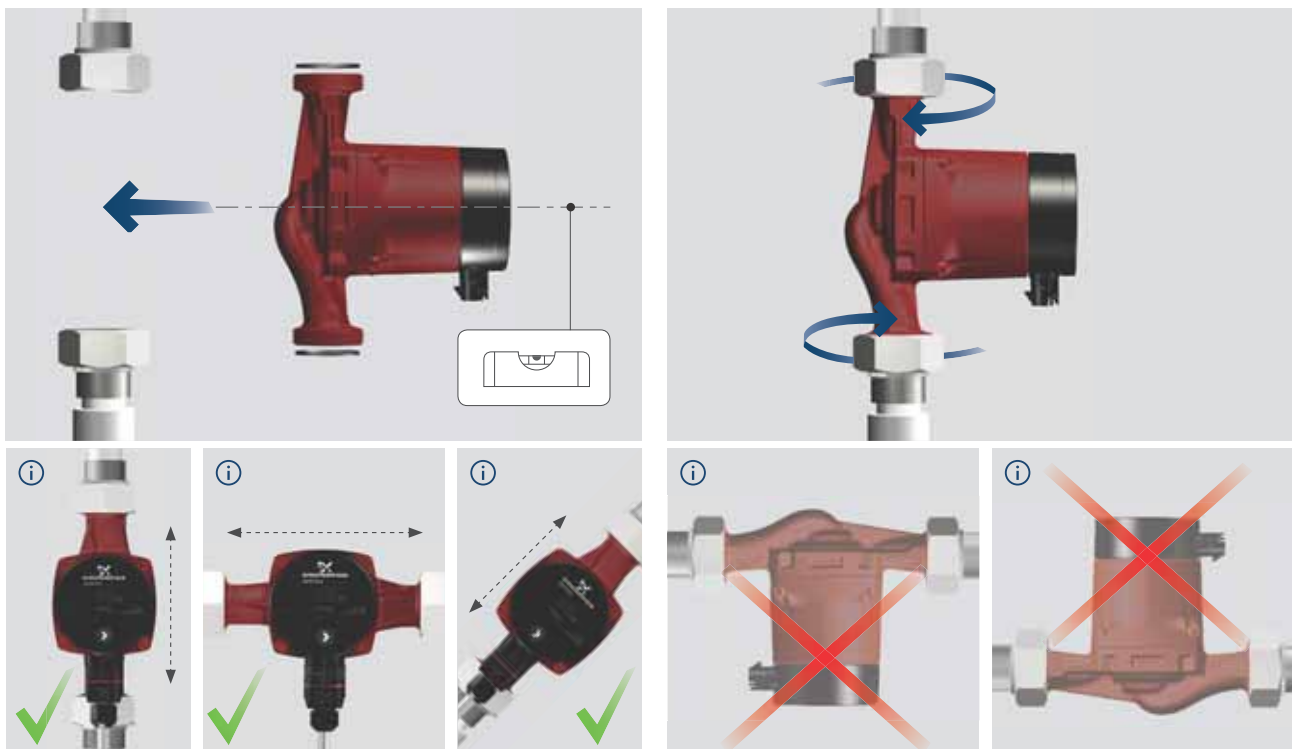

Fig. 4 Mounting the GRUNDFOS ALPHA1
- Install the pump with horizontal motor shaft. See fig. 4.